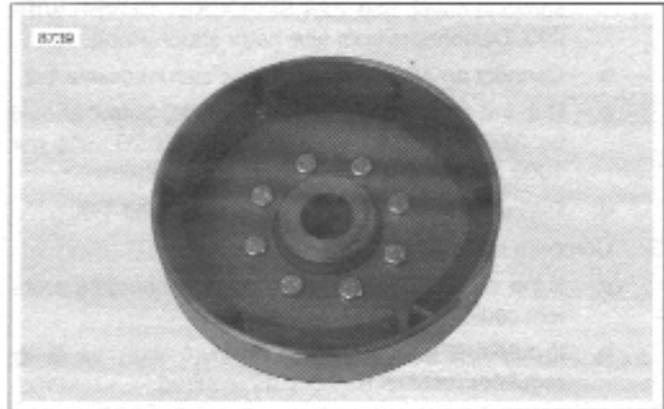

Figure 7-29. Rotor Assembly
1. See Figure 7-29. Remove the eight fasteners which secure alternator rotor to engine sprocket.